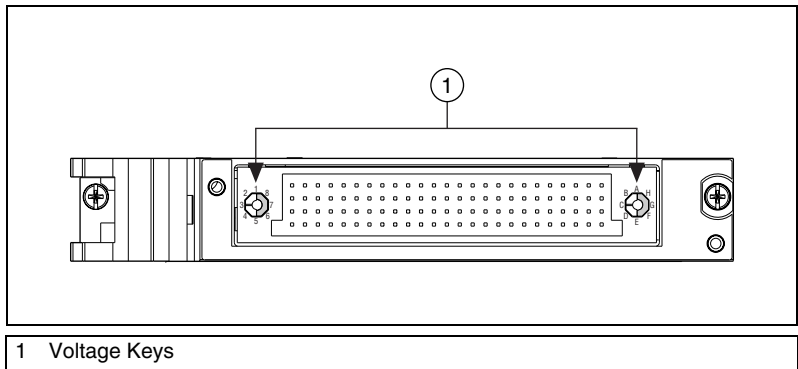

Figure 1. Switch Module with a Voltage Keying System
National Instruments switch modules that use the HDI-100 are installed with two, preset safety voltage keys. Each voltage key has eight possible positions. Letters designate the position of one voltage key; numbers designate the position of the other. Refer to Figure 1 to locate the voltage key positions of the switch module. Note that the voltage keys in Figure 1 are in the 3 and C positions.
1. Verify the voltage key positions, as shown in Figure 1, on the switch module to which you want to connect the HDI-100.